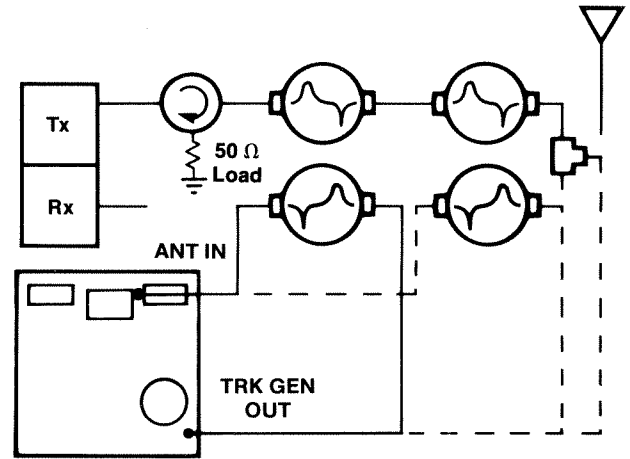

Figure 4
- 11 Align the receiver cavities the same way as the transmitter cavities repeating steps 8-10 (See Figure 4). The bandpass is tuned to the receiver frequency.